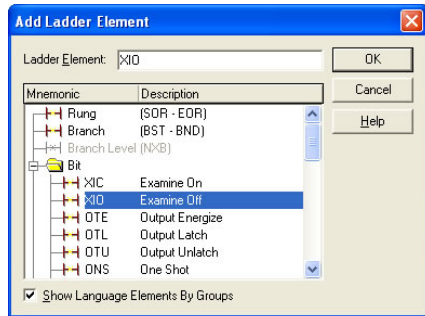

Figure 95: Adding an XIO Element
- c) Select the "XIO" element in the Bit folder. Refer to Figure 95.